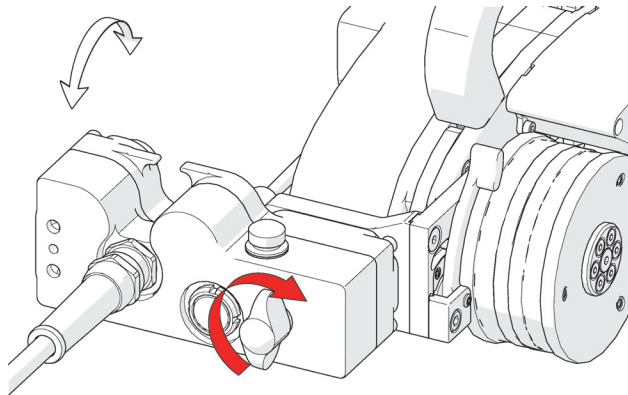

Figure 2-12 Tighten the black wing knob
3. Fasten the umbilical to the SteerROVER scanner's umbilical mount by tightening the black wing knob (see Figure 2-12 on page 57).